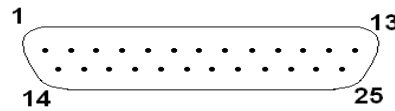

Figure 8 DB25 control interface
Figure 8 shows a schematic diagram of the DB25 control interface.:
- j) Signal input needs to be able to provide at least 7 mA of current. The schematic diagram of the output signal interface circuit is shown in Fig. 8.